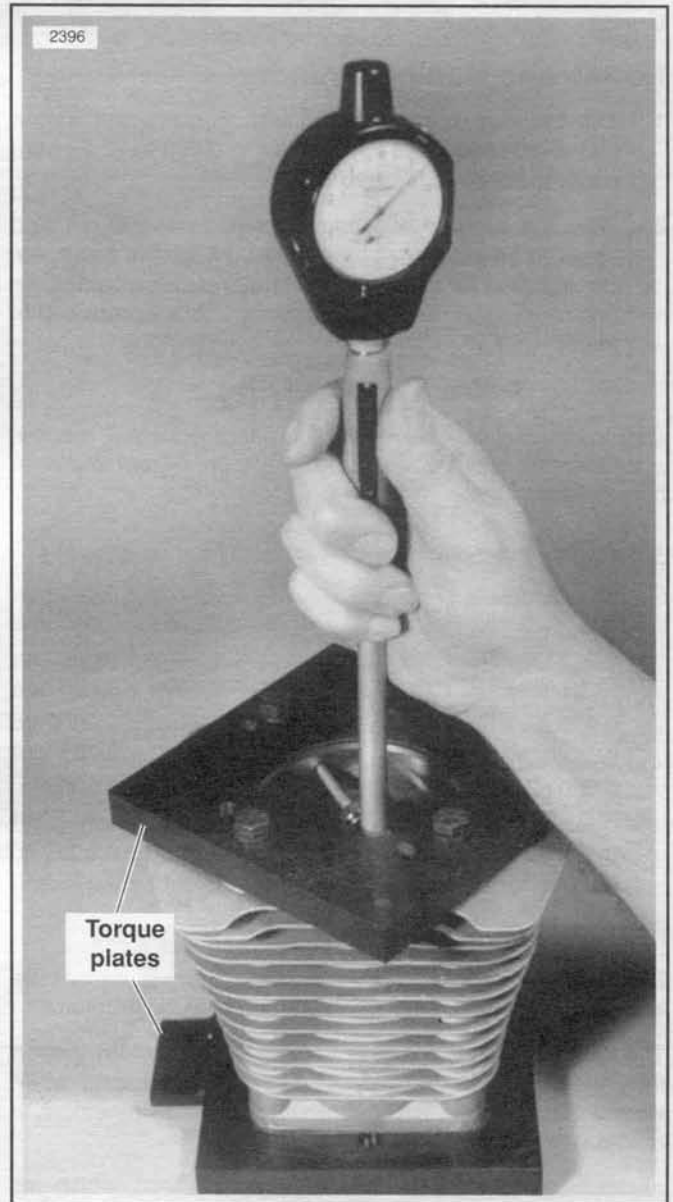

Figure 3-36. Measure Cylinder Bore
4. See Figure 3-36. Take cylinder bore measurement in the ring path, starting about 0.500 in. (12.70 mm) from the top of the cylinder measuring from front to rear and then side to side. Record readings.